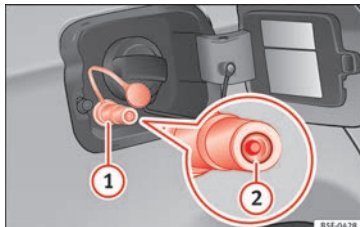

Fig. 239 Tank flap open: gas filler mouth ①, filler mouth retainer ②
- Remove the plug from the gas filler mouth » » » Fig. 239 .